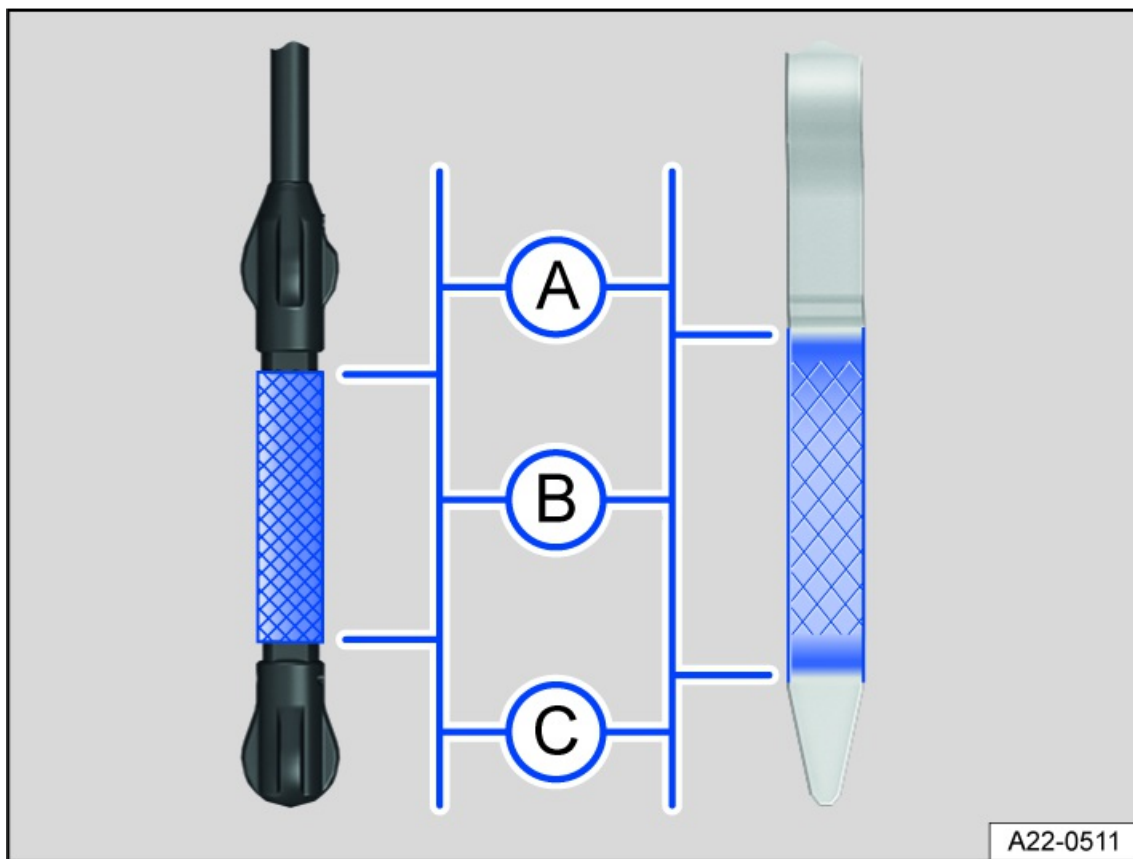

Fig. 212 Engine oil level markings on the oil dipstick (versions).
3. Remove the dipstick again and read the oil level on the dipstick as described below *fig. 212*:
When you are done adding oil, the oil level should be in the center of area *fig. 212* . The engine oil level must not be the area *fig. 212* .
5. If you accidentally add too much engine oil and the engine oil level is in area *fig. 212* , do not start the engine ⇒ . Contact an authorized Volkswagen dealer or authorized Volkswagen Service Facility for assistance.